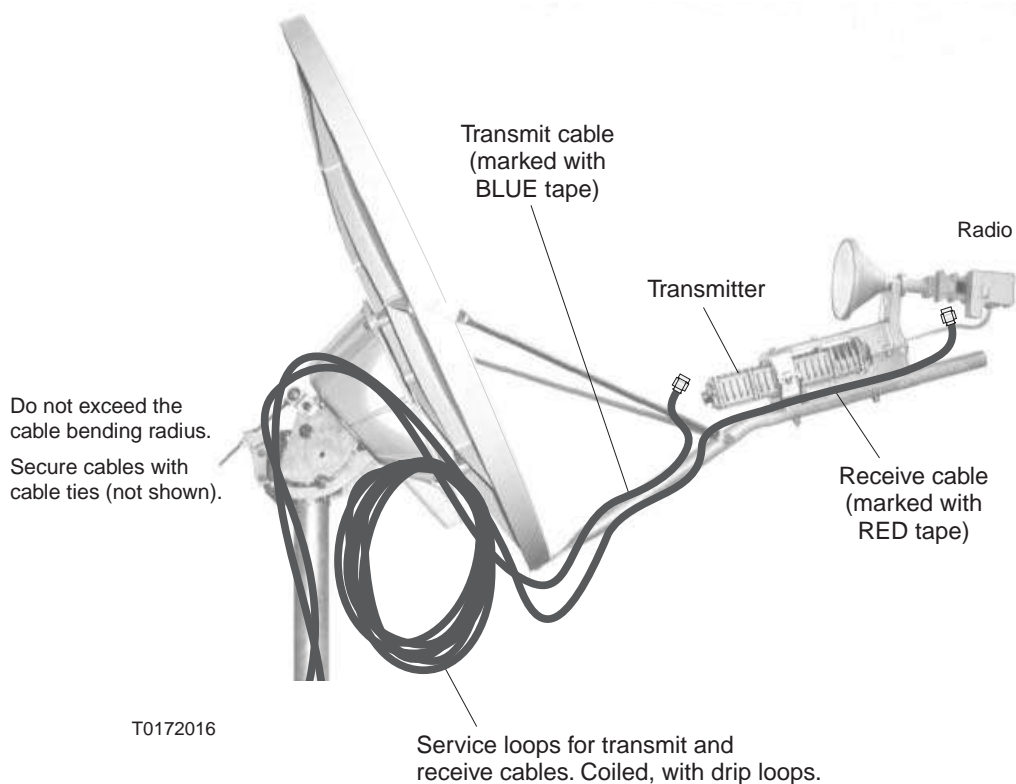

Figure 38: Transmit and receive cable configurations
2. Route the transmit cable over the Az/EI mount and down behind the reflector to the rear of the transmitter, in a configuration similar to that shown in Figure 38.
5. Route the receive cable over the Az/El mount assembly, down behind the reflector, and along the feed support arm to the TRIA, in a configuration similar to that shown in Figure 38 above.